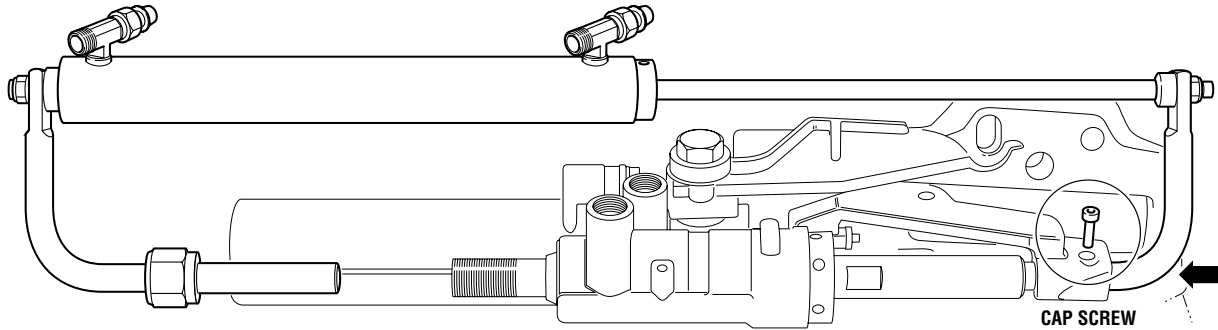

Figure 16.
2. Insert the long rod of the HC5339-3 cylinder into the clevis bracket until the through hole in the rod is aligned with the hole in the clevis bracket. Refer to figure 16.